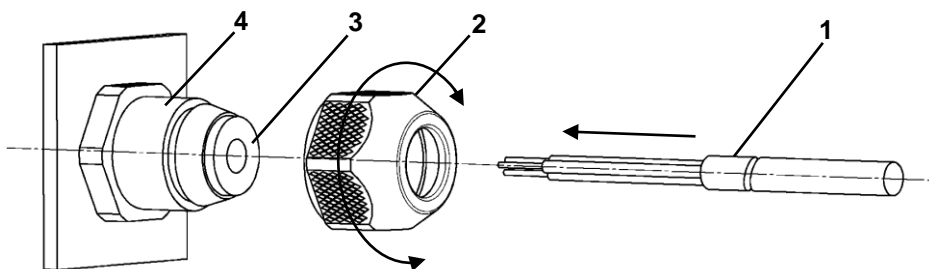

Figure 7: Connection PG-/cable screw gland
- Loosen the screwcap pos. 2.
- Lead the connection cable pos. 1 through the screwcap pos. 2, the moulded seal pos. 3 and the intermediate supports pos. 4 (Fig. 7).
- Fasten the screwcap pos. 2 once more.